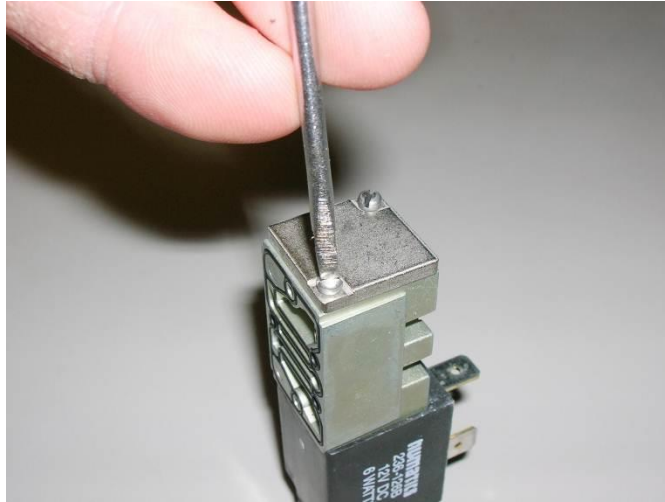

Figure 5-6: Replacing Solenoid Cap
- Carefully place the square cap onto the end, compressing the spring, and reattach the two (2) screws. Make the connection snug but do not over tighten. (Figure 5-6)